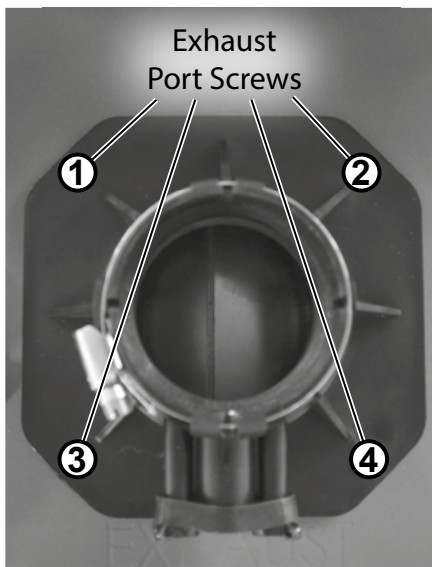

Figure 20 - Remove exhaust port screws
- 44 Disconnect exhaust piping from exhaust port. Locate and remove the four (4) screws securing exhaust port to water heater cabinet as shown in Figure 20. Place screws aside in a safe place for reinstallation.